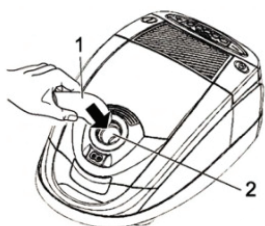

Fig.2
1. Insert the end of the suction hose (Fig. 2) in the intake opening (Fig. 2/2) into the intake opening of the vacuum cleaner, until it locks with an audible click.